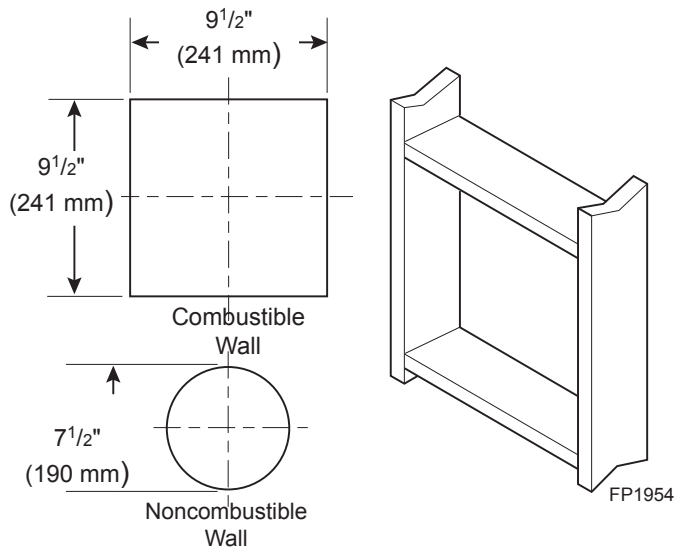

Figure 26 - Exterior Wall Framing Dimensions for 4" x 6⁵/₈" or 4" x 7"
- Combustible Exterior Walls:** Cut a 9½"H x 9½"W square hole through the exterior wall frame. *Figure 26*
2. The center of the hole should line up with the center line of the horizontal rigid vent pipe end. Allow ¼" minimum rise per foot. *Figure 26*